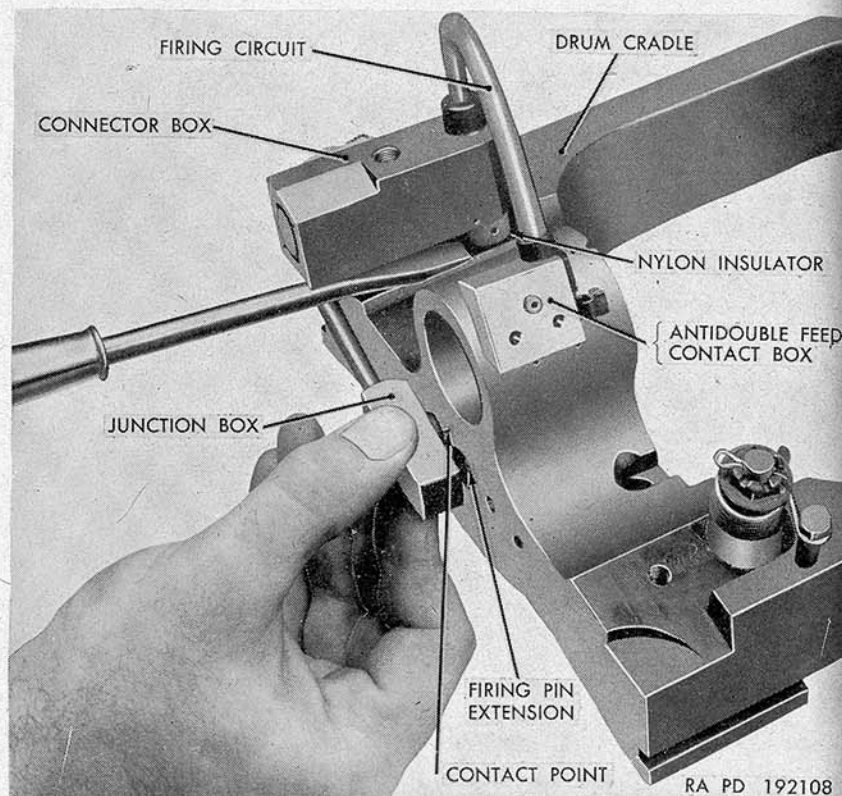
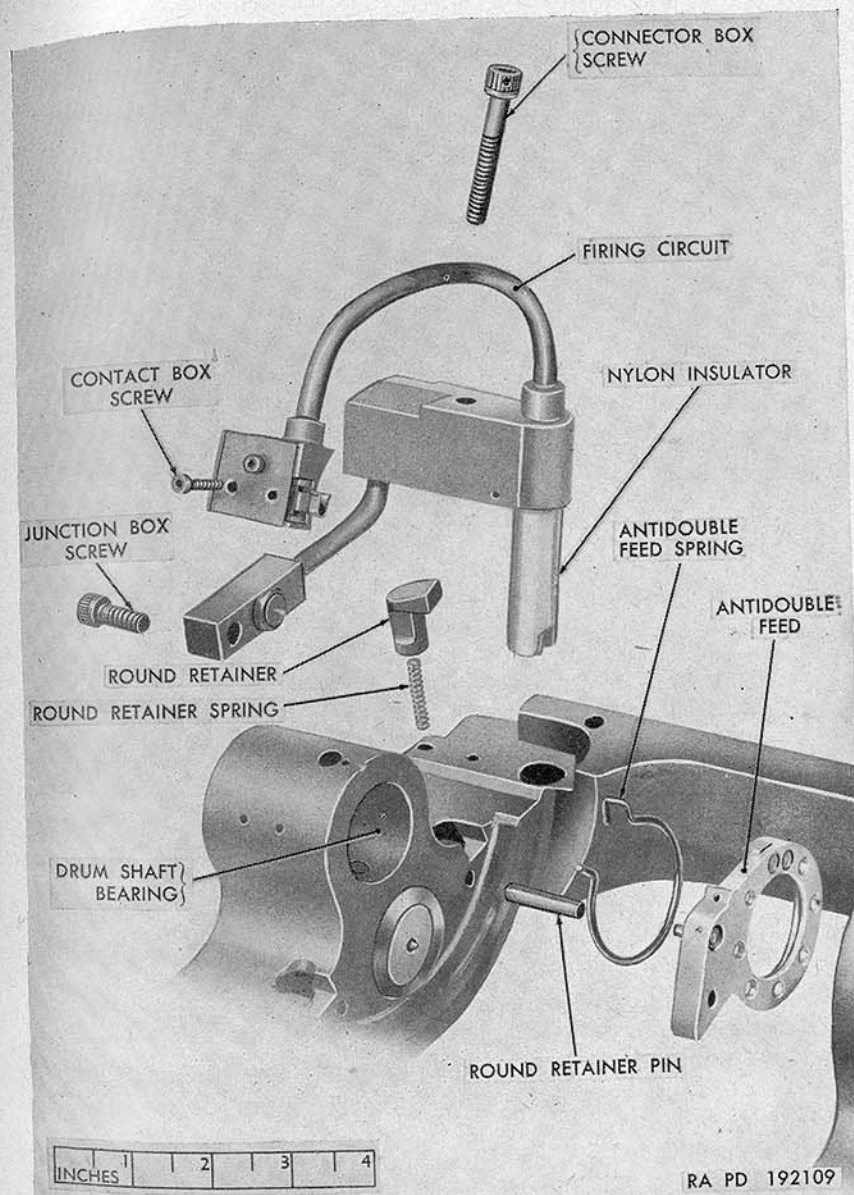
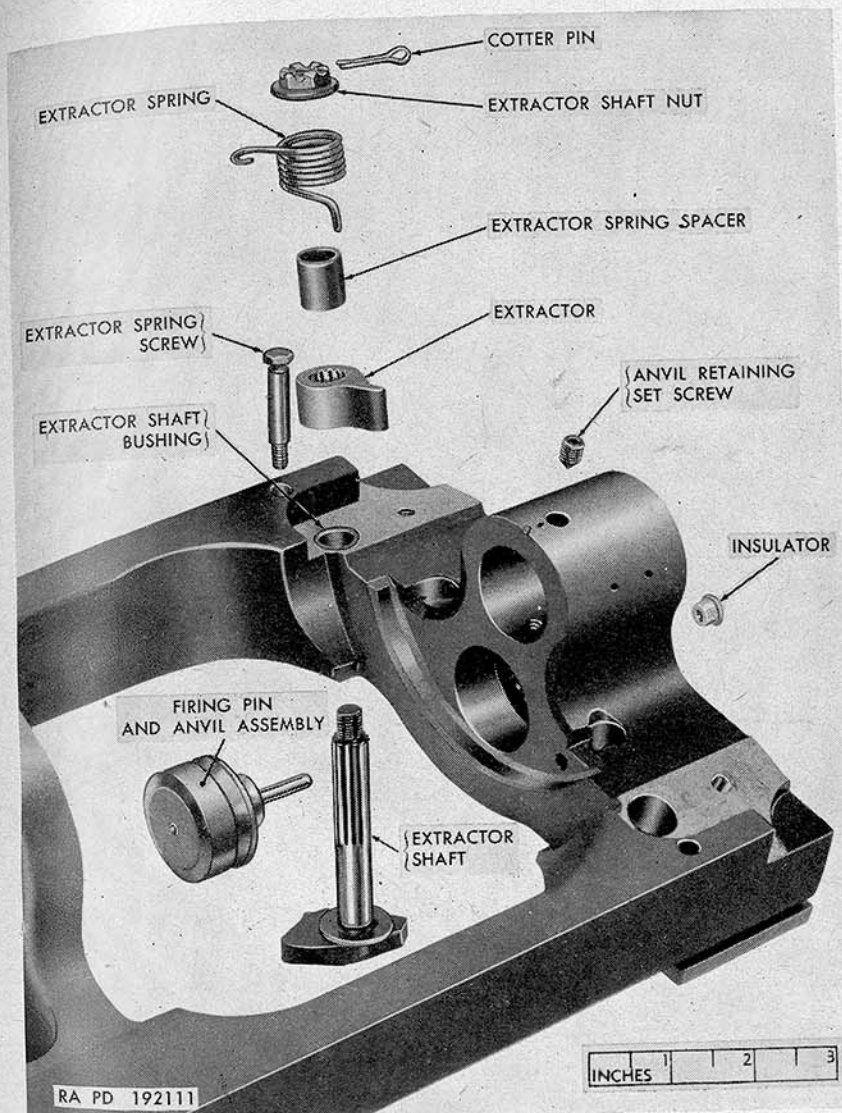
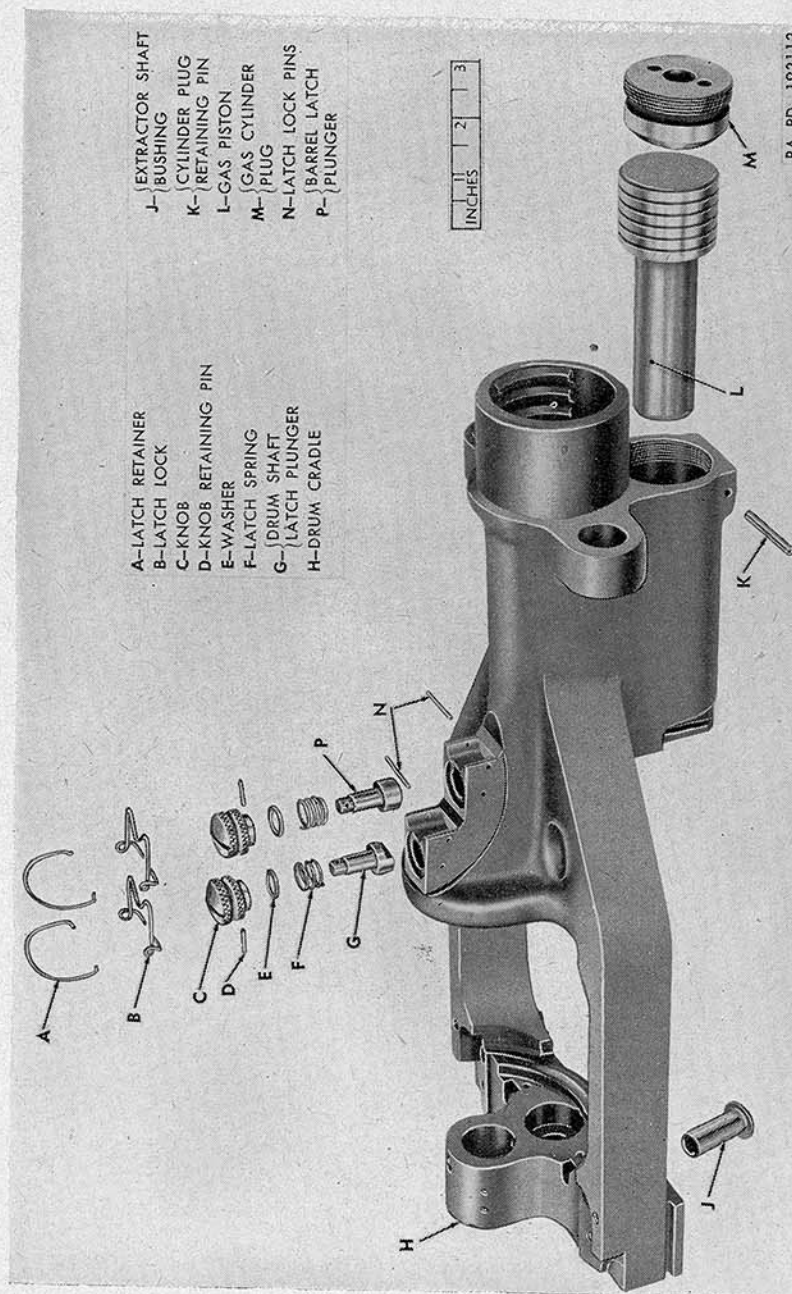

Figure 68. Removal of firing circuit from drum cradle.
Figure 69. Firing circuit, round retainer group, and antidouble feed—exploded from drum cradle.
Figure 71. Extractor group and firing pin and anvil assembly—exploded from drum cradle.
Figure 72. Cradle group parts—exploded from drum cradle.
- (2) Lift antidouble feed upward to free the antidouble feed spring from the drum cradle.
- (3) Remove antidouble feed spring from antidouble feed (fig. 69).
- (2) Pull junction box rearward slightly until contact point is free of the firing pin extension (fig. 68).
- (3) Hold junction box in rearward position and insert screwdriver under connector box.
- (4) Pry upward on connector box until nylon insulator is withdrawn from drum cradle, and remove firing circuit from drum cradle (fig. 69).
c. Removal of Round Retainer (fig. 69).
- (1) Drive out the round retainer pin from the rear, forward. Before the pin is completely out, depress the round retainer so that spring will not be released too suddenly.
- (2) Remove the round retainer and round retainer spring from the drum cradle.
- (2) Push firing pin extension from the rear and withdraw firing pin and anvil assembly.
- (3) Withdraw firing pin extension insulator from rear of drum cradle.
e. Removal of Extractor Group (fig. 71).
- (1) Remove the cotter pin.
- (2) Unscrew the extractor shaft nut from the extractor shaft.
- (3) Unscrew the extractor spring screw from the drum cradle. The extractor spring will follow with the screw.
- (4) Remove extractor spring spacer.
- (5) Withdraw extractor from splines of extractor shaft and allow extractor shaft to drop out.
- (6) Remove extractor shaft bushing, using a drift if necessary.
- (1) Remove the latch locks and latch retainer (fig. 72) by pulling them from their holes in the drum cradle.
- (2) Remove barrel latch assembly and drum shaft latch assembly.
- (3) Drive out knob retaining pins (fig. 72).
- (4) Withdraw washer, spring, and plunger.
g. Removal of Gas Cylinder Group (fig. 72).
- (1) Drive out cylinder plug retaining pin.
- (1) Check the contact to see that it is securely in place.
- (2) Inspect antidouble feed spring for cracks or deformation.
- (3) When necessary to replace either the spring or antidouble feed, notify maintenance personnel.
b. Firing Circuit (fig. 69).
- (1) Check conduits for breaks.
- (2) Inspect contact blades of the antidouble feed contact box and the nylon insulator. Too much space between them will result in poor contact. The contact blade of the operating slide mates with the contact on the end of the nylon insulator.
- (3) Inspect nylon insulator for cracks or deterioration.